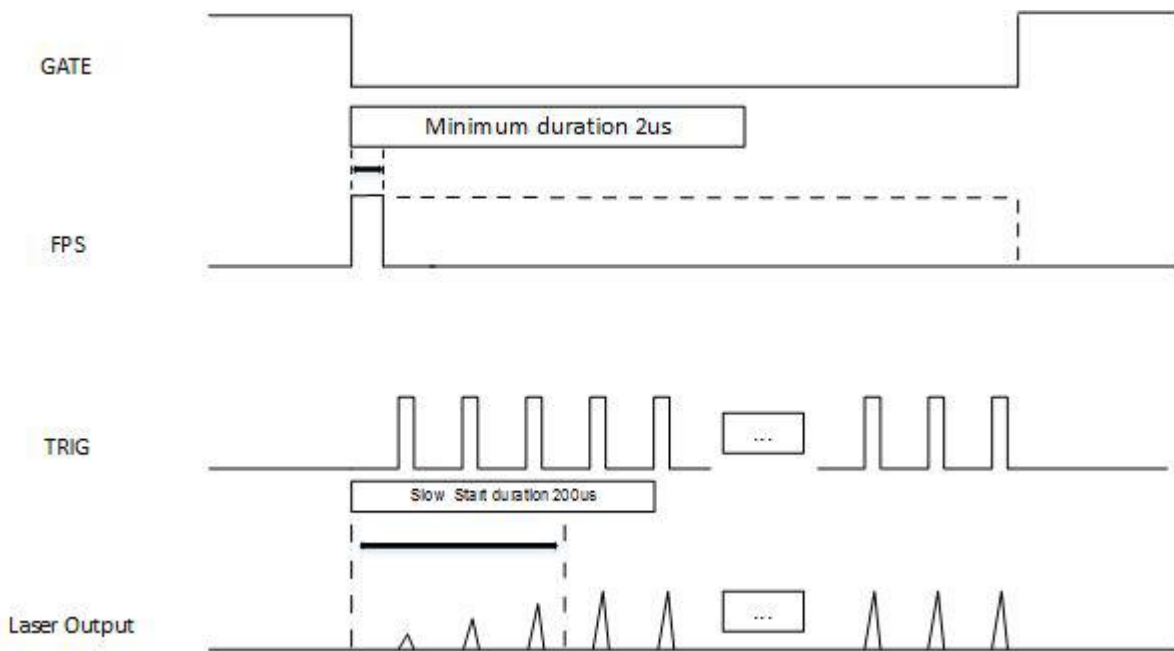

Figure 9 Control Sequence
To realize the laser pulse output in the external control mode of the laser, it is necessary to connect the correct signal sequence in the DB15 of the laser, and the signal sequence is shown in Figure 9
① Gate is the gate control signal, and the low level (light output) is effective, corresponding to the laser on the switching board.
② Trig is the frequency signal corresponding to PWM on the adapter board.
③ FPS is the first pulse suppression signal, and the high-level time is more than 2 μ s. When FPS signal is used, the corresponding slow start duration is 150 μ s.
④ When the first pulse suppression function is not needed, only GATE signal and TRIG signal need to be input.
⑤ All control signals are TTL level.
* For the use of different control card, we have made special adapter cards. Customers can get the sequence (same as Figure 9 showed) for laser control through adapter cards.
- “Laser” on adapter card means the output laser signal is the same polarity as the GATE signal shown in Figure 9, “ $\overline{\text{Laser}}$ ” means the output laser signal is the converse polarity as the GATE signal shown in Figure 9. When the laser on signal to “laser”, use the short cap short circuit PIN2 and PIN3 of J3. When the laser on signal to “ $\overline{\text{Laser}}$ ”, use the short cap short circuit PIN1 and PIN2 of J3.
- “PWM” on adapter card means the output modulation signal is the same polarity as the TRIG signal shown in Figure 9, “ $\overline{\text{PWM}}$ ” means the output modulation signal is the converse polarity as the TRIG signal shown in Figure 9. When the modulation signal to “PWM”, use the short cap short circuit PIN2 and PIN3 of J5. When the modulation signal to “ $\overline{\text{PWM}}$ ”, use the short cap short circuit PIN1 and PIN2 of J5.
- “FPS” on adapter card means the output first pulse signal is the same polarity as the FPS signal shown in Figure 9, “ $\overline{\text{FPS}}$ ” means the output first pulse signal is the converse polarity as the FPS signal shown in Figure 9. When the first pulse killer signal to “FPS”, use the short cap short circuit PIN2 and PIN3 of J8. When the first pulse killer signal to “ $\overline{\text{FPS}}$ ”, use the short cap short circuit PIN1 and PIN2 of J8. When the FPS function is not enabling, please use short cap to connect 1,2 pins of J8.